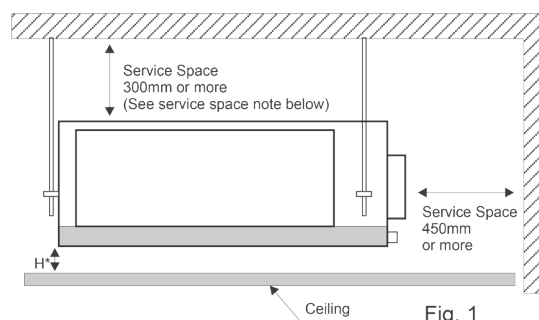

Fig. 1
(1) Select an installation site where the following conditions are fulfilled and that meets your customer's approval.
- Where sufficient clearance for maintenance and service can be ensured. (see Fig. 1)